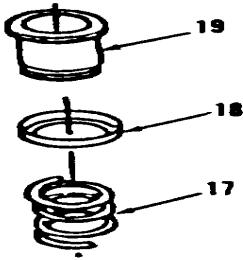

Figure 6-34.
- 14. Install retainer (18) and spring (17) onto valve (19, Figure 6-34).